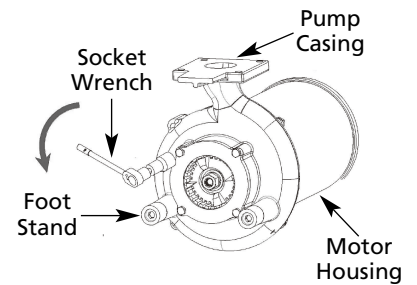

Figure 7
Refer to Figures 7 thru 12
1. To clean out volute or replace the cutter and impeller disconnect power. Disconnect discharge piping. Dismantle the elbow using wrenches. (See Figures 7 and 8).